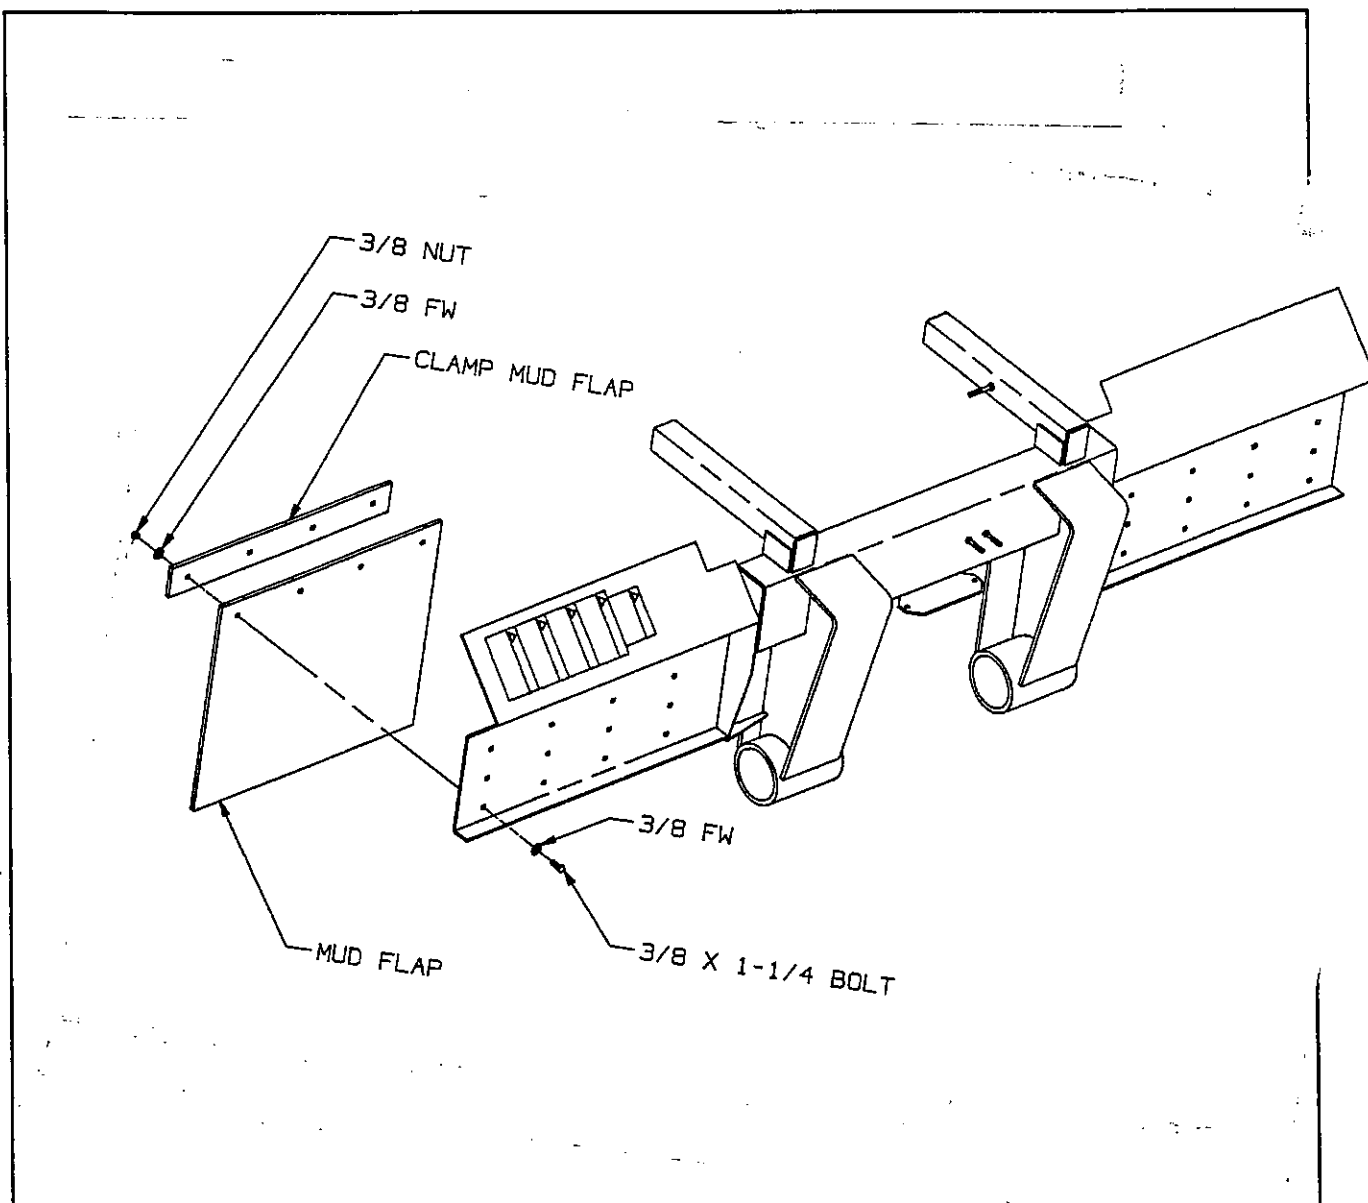

Figure 4-10 Mud Flap Installation
**4-7.11** Connect the wires in the multi-conductor wiring harness to the truck wiring system according to Figure 4-10 (seven conductor wiring connections).
**4-9.1** Install a mud flap behind both rear dual wheels on the mud flap support provided. Use four 3/8" x 1-1/4" bolts to hold the mud flaps secure between the mud flap mount and the flat metal clamp. (See Figure 4-10)